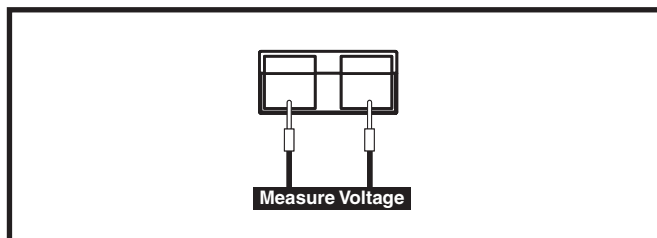
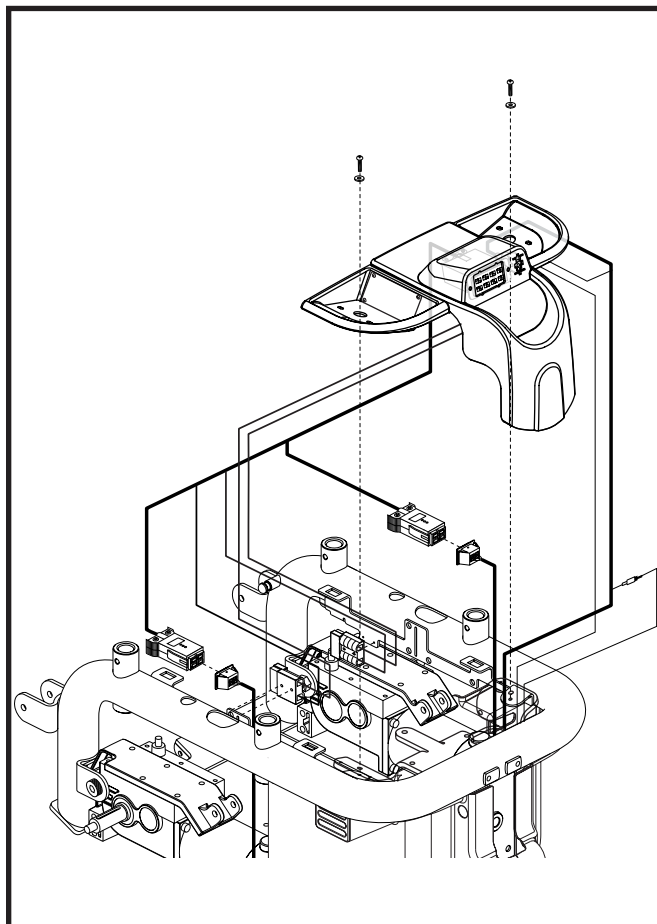

Figure 5. Connector 6a (also connector 7a)
Figure 6. Jazzy 1121 Electronics Tray Assembly/Disassembly
9. Measure voltage across pin 1 and pin 2 on connector 6a. **See figure 5.**
- *If your multimeter indicates a different voltage (by at least 0.2VDC), then replace the rear battery harness (6) and retest the system.*
11. Measure voltage across pin 1 and pin 2 on connector 7a. **See figure 5.**
- *If your multimeter indicates a different voltage (by at least 0.2VDC), then replace the front battery harness (7) and retest the system.*
12. Unscrew the electronics tray assembly and lift it off of the 1121 frame. **See figure 6.**